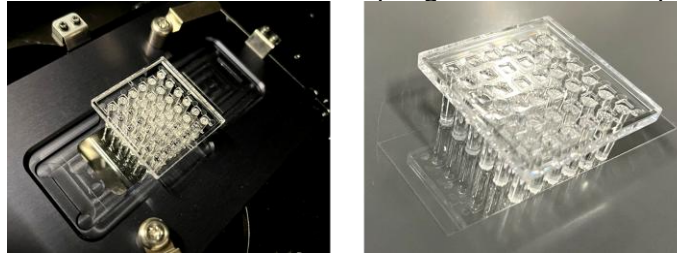

Figure 4. The thin microscopic glass slide attached to the pillar plate with organoids for image acquisition.
13. For organoid imaging, separate the 36PillarPlate with stained and cleared organoids from the 384-well plate and attach the thin microscopic glass slide on the pillar plate (**Fig. 4**).